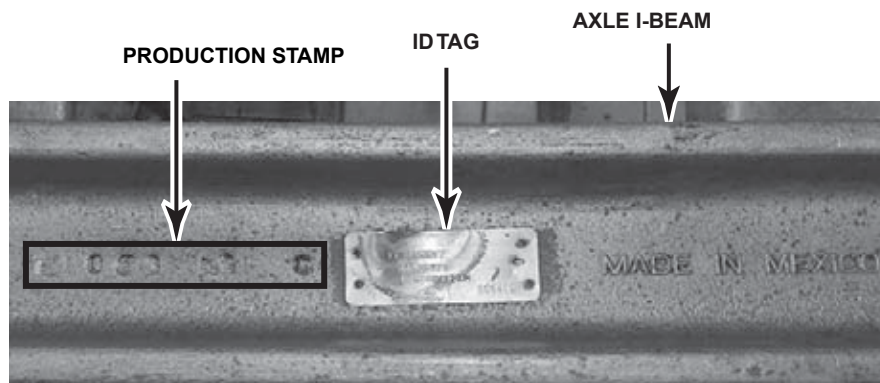

Figure 1
1. Find and record the heat code stamped on the axle and the axle serial number located on the identification tag at the front/center of the steer axle. See Figures 1, 2, 3, 4 and 5.